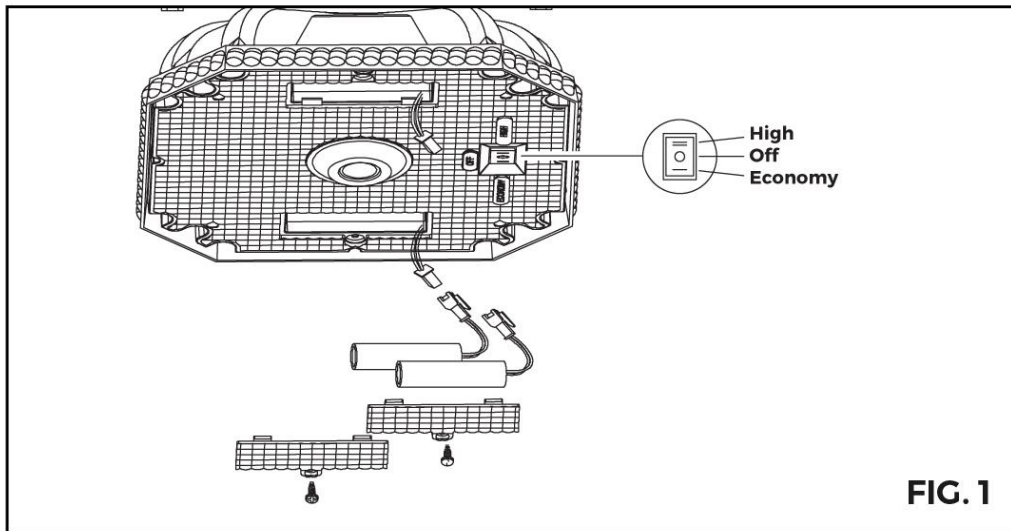

FIG. 1
1. Unscrew the two knobs in the upper part of the lamp (B) to detach it from Part A.
2. Turn ON the operation switch by choosing your desired brightness level: **Economy (I)** - last longer using dimmer light. **High (II)**- Brighter light output. (Fig. 1).
3. Reassemble the upper part of the lamp (B) by screwing the two knobs.
1. Detach the upper part of the lamp as shown in (Fig. 1) by turning it counterclockwise.
2. Make sure the ON/OFF switch is in the "OFF" position (O).
3. Unscrew the battery compartment's screw located on the silver reflector and remove the old battery pack. Make sure the new batteries are high quality - 1 x Li-Ion Battery Pack (3.2 Volt / 1500 Ma) (Fig. 1).